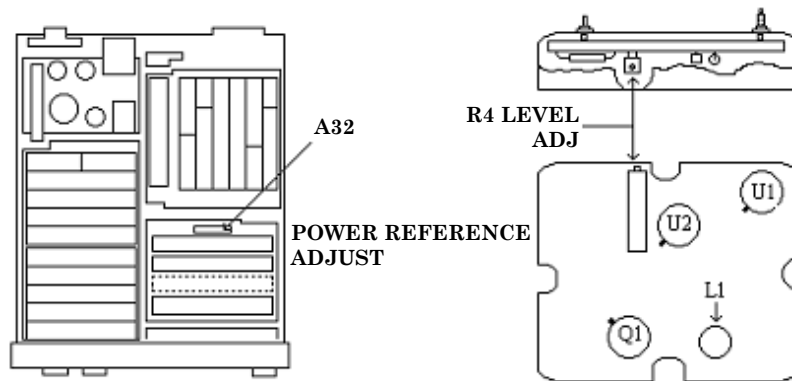

Figure 17. A32 board.
(4) If TI frequency indication is not between 49.5 and 50.5 MHz remove the thumb screw retaining the A32 oscillator and slide the assembly out. Adjust A32L1 (fig. 17) for 50 MHz  $\pm$ 0.5 MHz.
- (10) Adjust A32R4 LEVEL ADJ (fig. 17) to adjustment value calculated in (10) above. (R)
- (11) Disconnect equipment setup.